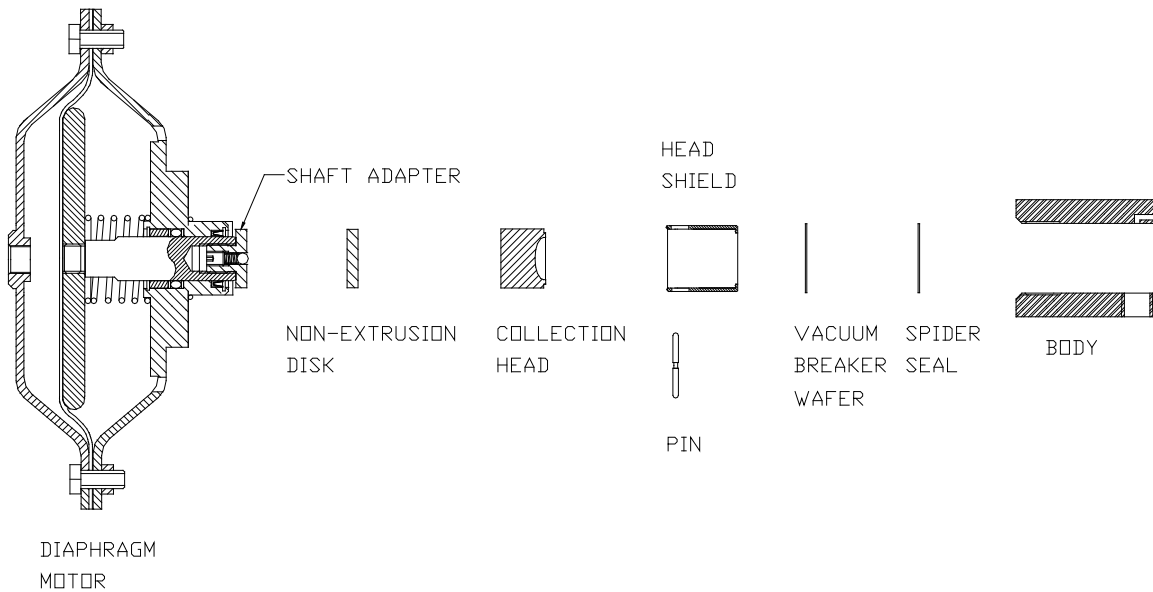

FIGURE 6
3.2.5 To replace the collection head #23 push the holding pin #27 out (it is held in place by spring tension) and slip the shield #24 off of the shield/shaft adapter #26. Push the collection head out of the shield. The non-extrusion disc #25 will come out first and does not need to be replaced if it is in good condition (see Figure 6).